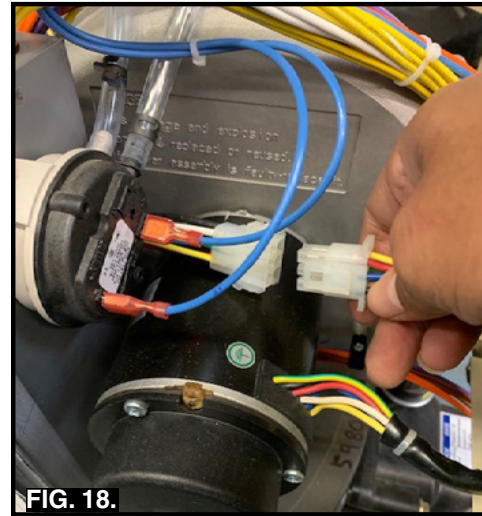

FIG. 18.
14. Connect the Blower assembly. (Fig. 18).